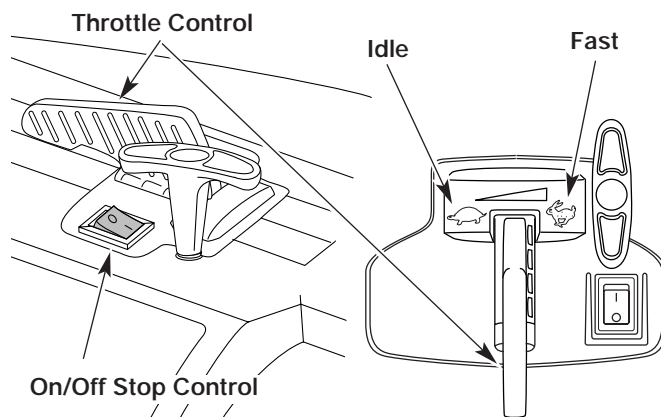
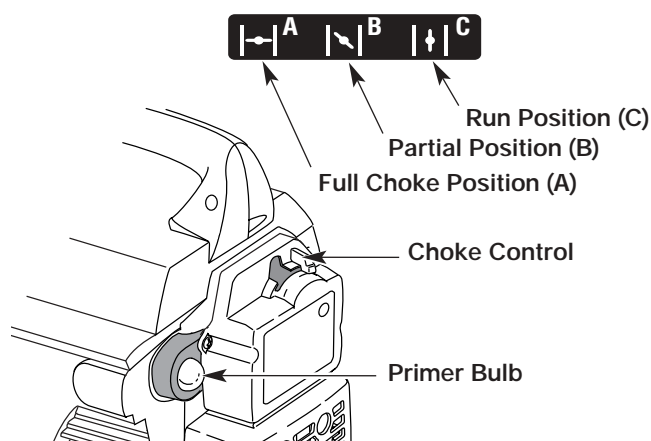
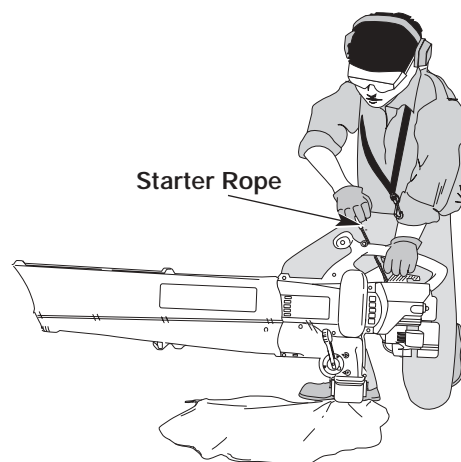

Fig. 9
Fig. 10
Fig. 11
WARNING: Avoid accidental starting. Make sure you are in the starting position when pulling the starter rope (Fig. 11). To avoid serious injury, the operator and unit must be in a stable position while starting.
3. Fully press and release the primer bulb 10 times, slowly, until **FUEL IS VISIBLE IN THE PRIMER BULB** (Fig. 10). If you can't see fuel in the bulb, press and release the bulb as many times as it takes before you can see fuel in it.
4. Place the choke lever in the **FULL** choke (|←|) position (Fig. 10).
5. Place the unit in the starting position (Fig. 11). Move the throttle control to the fast position (↻) (Fig. 9).
7. Place the choke lever in the **PARTIAL** choke (|↘|) position (Fig. 10).
8. Pull starter rope briskly 1 to 3 times to start the engine (Fig. 11).
NOTE: If the engine floods while trying to start, place the choke lever in the **RUN** (|↑|) position (Fig. 10). Move the throttle control to the fast position (↻) (Fig. 9). Pull the starter rope briskly. The engine should start with three (3) to eight (8) pulls.
NOTE: Choking is unnecessary when starting a warm engine. Put the throttle control in the fast position (↻) (Fig. 9) and start unit with the choke control in the **PARTIAL** (|↘|) position (Fig. 10).
1. Move the throttle control to the idle position (↶) (Fig. 9). Allow the engine to cool down by idling for 10-15 seconds.
2. Press the On/Off Stop control down in the **STOP** (O) position until the engine comes to a complete stop.
1. Press the On/Off Stop control down in the **STOP (O)** position until the engine comes to a complete stop (Fig. 9).